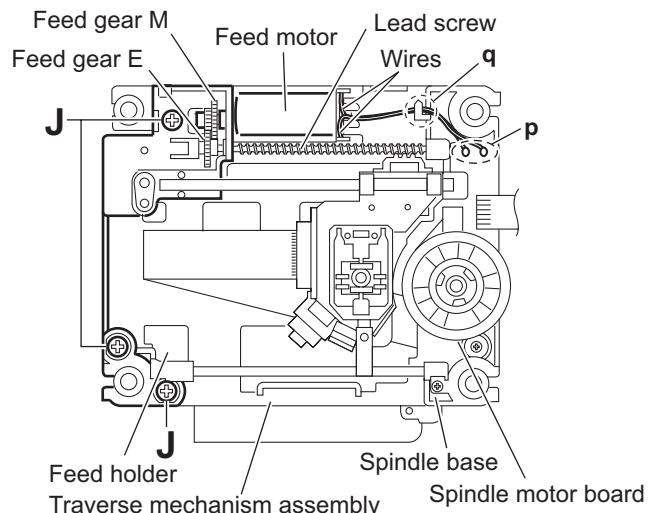

Fig.14
- (3) Remove the wires from the soldered sections **p** on the spindle motor board. (See Fig.14.)
When attaching the feed motor, pass the wires through the section **q** on the spindle base. (See Fig.14.)
- (4) Remove the three screws **J** attaching the feed holder. (See Fig.14.)
- (5) Remove the feed holder, feed motor, lead screw, feed gear **E** and feed gear **M** simultaneously. (See Fig.14.)
(See Fig.14 and 16)
- (1) From the top side of the traverse mechanism assembly, remove the wires from the soldered sections **p** on the spindle motor board. (See Fig.14.)